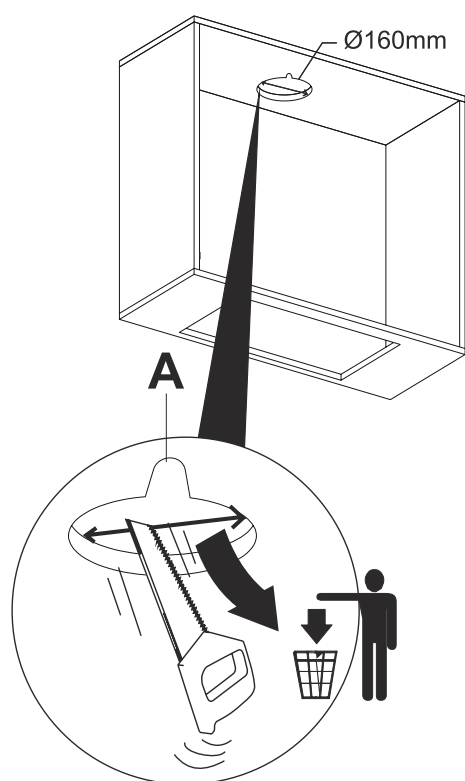

Fig. 14
2. → Cut the top cover of the cabinet to the specified size for the air outlet chimney of the hood(Fig. 14) If the power cord should pass in close proximity to the air discharge flue, create a cross section for it.